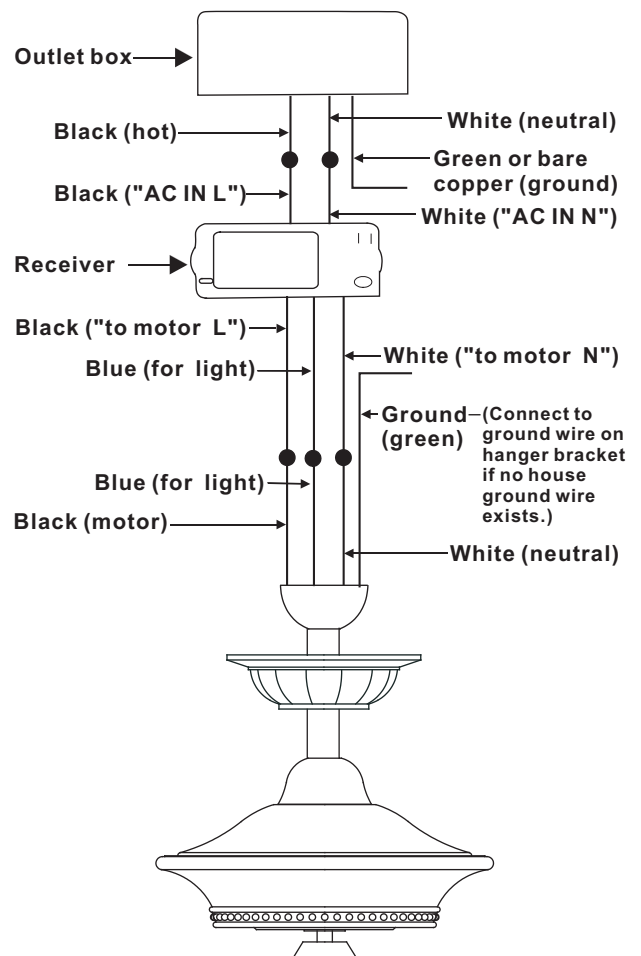

Figure 11
2. (Figure 11) Motor to Receiver Electrical Connections: Connect the black wire from the fan to black wire marked "TO MOTOR L". Connect the white wire from the fan to the white wire marked "TO MOTOR N" from the receiver. Connect the blue wire from the fan to the blue wire marked "For Light" from the receiver. Secure the wire connections with the plastic wire nuts provided.
3. (Figure 11) Receiver to House Supply Wires Electrical Connections: Connect the black (hot) wire from the ceiling to the black wire marked "AC in L" from the receiver. Connect the white (neutral) wire from the ceiling to the white wire marked "AC in N" from the receiver. Secure the wire connections with the plastic wire nuts provided.
4. (Figure 11) If your outlet box has a ground wire (green or bare copper), connect it to the fan ground wires; otherwise connect the hanging bracket ground wire to the mounting bracket. Secure the wire connection with a plastic nut provided. After connecting the wires spread them apart so that the green and white wires are on one side of the outlet box and black and blue wires are on the other side. Carefully tuck the wire connections up into the outlet box.